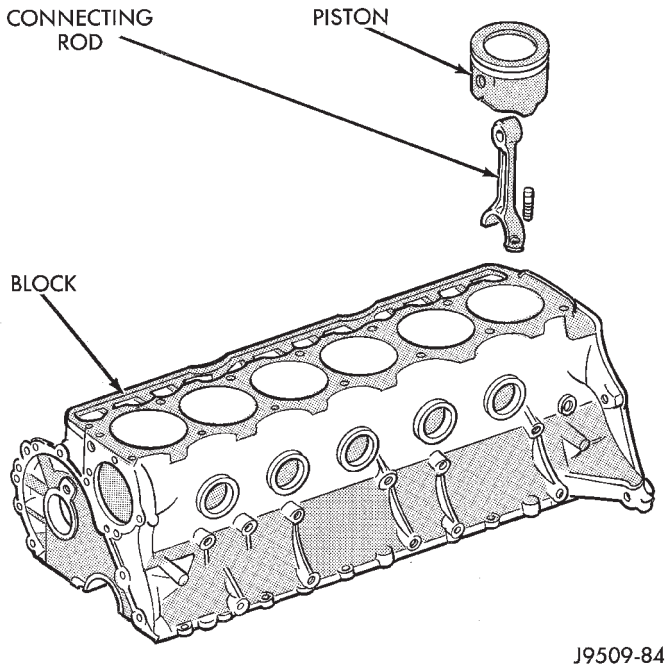

Fig. 59 Removal of Connecting Rod and Piston Assembly
(12) Have an assistant push the piston and connecting rod assemblies up and through the top of the cylinder bores (Fig. 59).